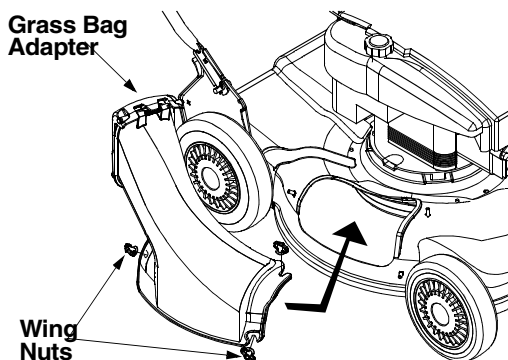

Figure 6
- Replace with grass bag adapter, while making sure the inner lip of attachment goes under the edge of the deck. Secure with the wing nuts previously removed. See Figure 6.